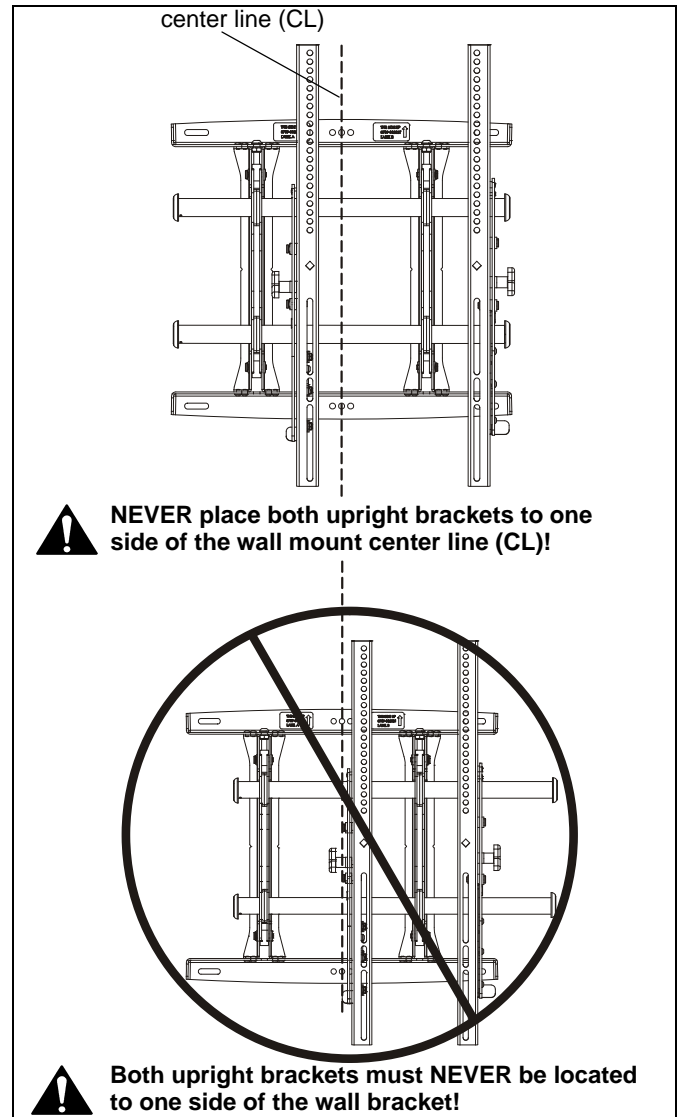

Figure 9
**NOTE:** Do NOT allow both upright brackets to be located on same side of wall bracket. (See Figure 9)
**NOTE:** NEVER place both upright brackets to one side of the wall mount center line! (See Figure 9)